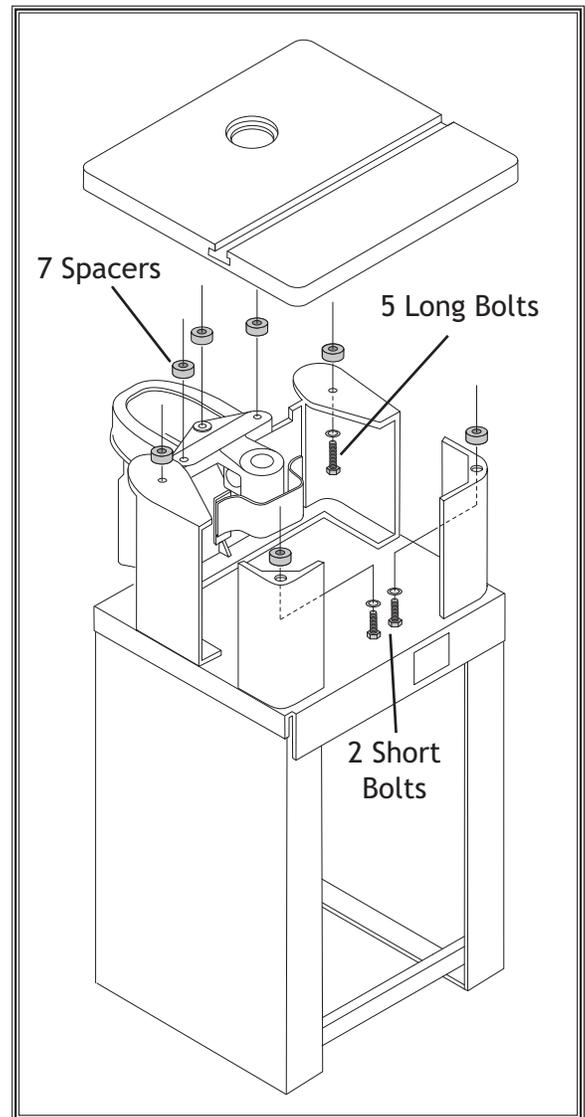

Figure 53. Installing table spacers.
8. Place table on spacers and secure it to shaper with hex bolts and lock washers from router table spacer kit (see **Figure 53**).